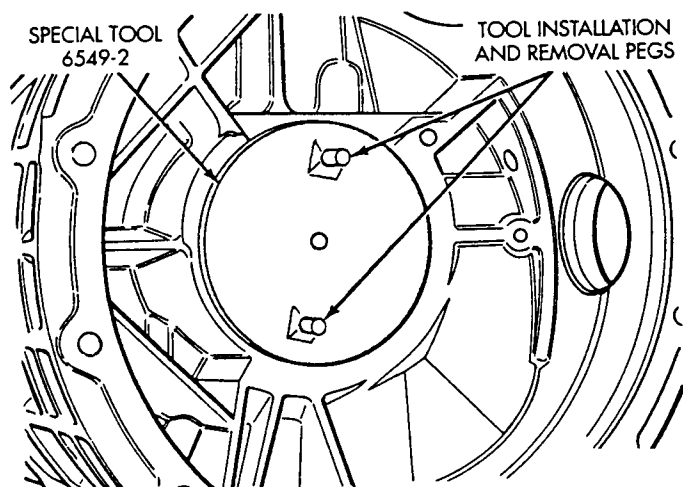

Fig. 2 Installing Centering Block
(2) Install centering block (special tool 6549-2) into the transaxle case (Fig. 2). Screw centering block into inner adjuster hole of case until it bottoms. The pegs on the special tool are only used for installation. Orientation with in the case is not required.